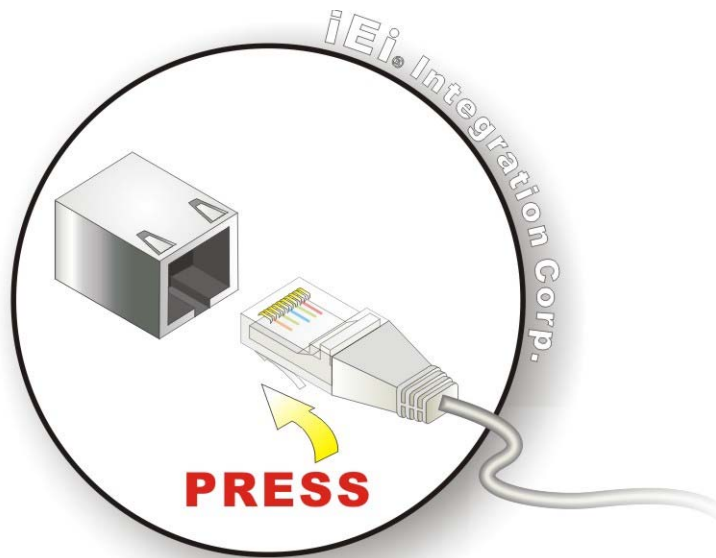

Figure 4-18: LAN Connection
Step 2: Align the connectors. Align the RJ-45 connector on the LAN cable with one of the RJ-45 connectors on the IMBA-C2260-i2. See **Figure 4-18**.